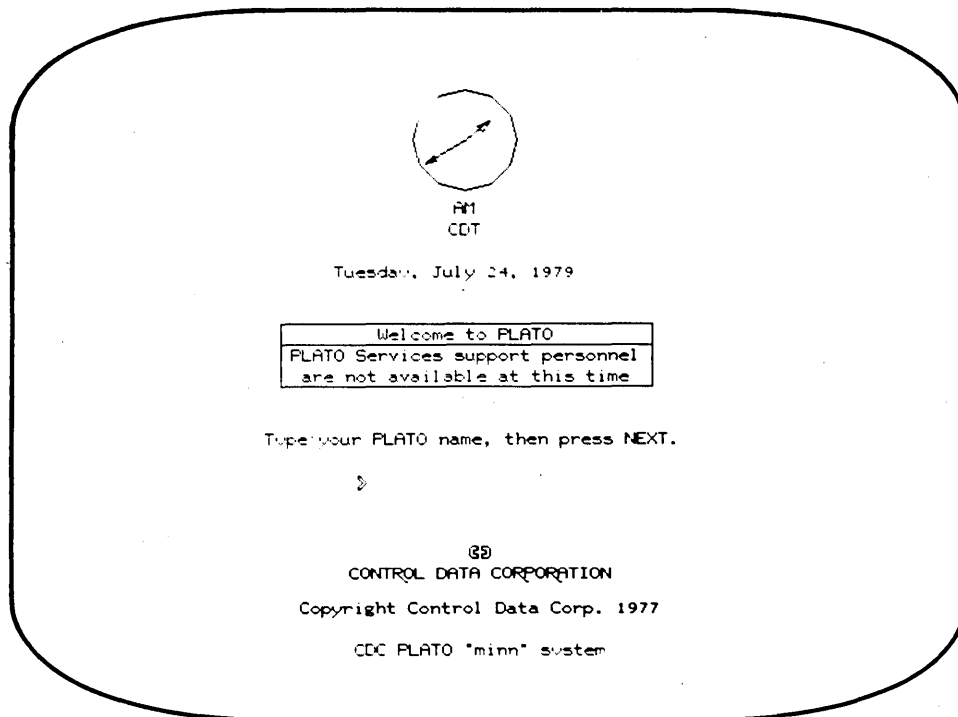

Figure 2-3. Extended Time Welcome Display
- b. Extended Time Welcome Display (figure 2-3) appears when system is in extended time; PLATO services personnel are not available. Go to step 3.